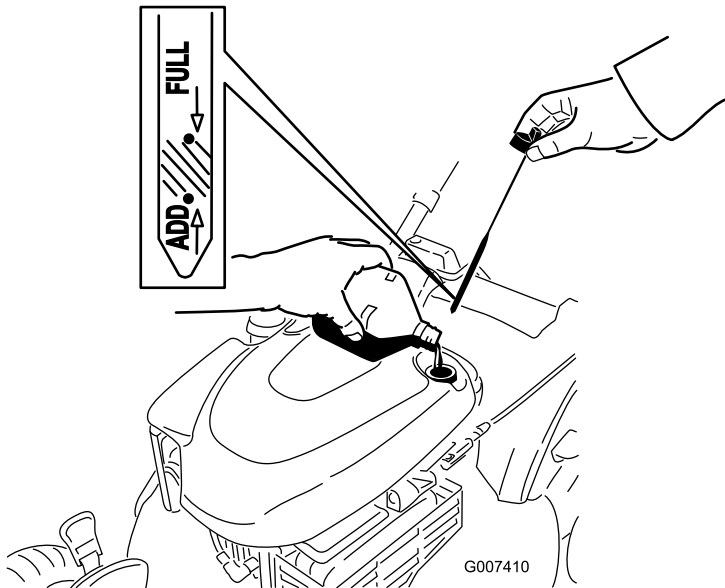

Figure 16
2. Remove the dipstick (Figure 16).
5. Remove the dipstick and read the oil level; refer to Figure 16.